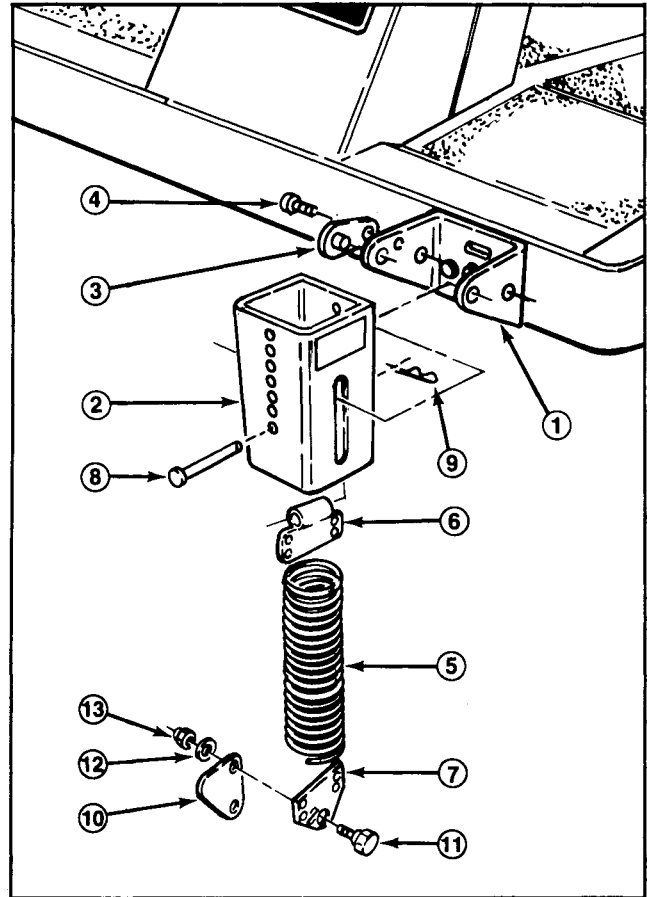

Figure 11
2. Thread the top extension spring coil into the top spring end holes and the bottom extension spring coil into the bottom spring end holes (Fig. 11).
5. Align slotted holes in the spring cover (slot toward the bottom) with the mounting bracket holes. Insert lock pin assemblies into the bracket holes and secure each to the bracket with self-tapping screws (Fig. 11). Torque the screws to 20 ft-lb.
6. From the bottom, insert the spring and top spring end into the spring covers. Select a hole that matches the cutter deck height-of-cut hole setting; i.e., top cover hole matches highest height setting, bottom cover hole the lowest, etc. Align the top spring end hole with the selected spring cover holes and insert the clevis pin to secure the spring inside the cover (Fig. 11). Secure the clevis pin with the hair pin cotter (Fig. 11).